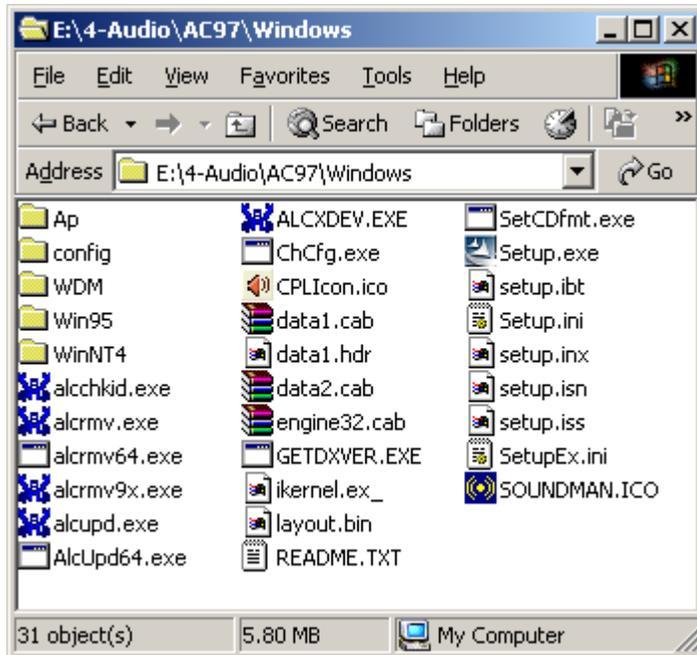

Figure 6-12: CD 4-Audio\AC97\Windows Folder
Step 6: The “Preparing Setup” window in **Figure 6-12** appears next.